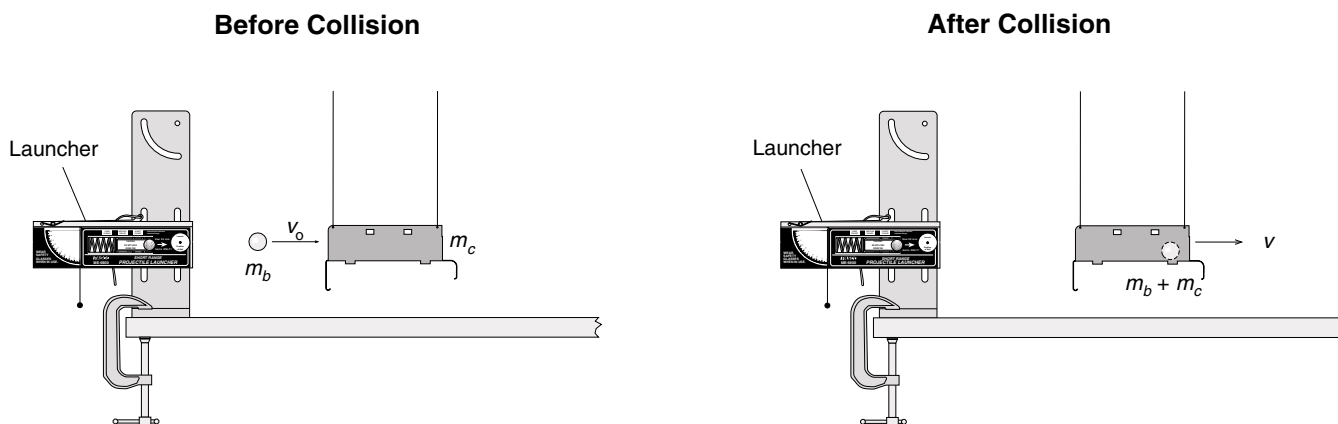

Figure 1.1: Conservation of Momentum
A ball is launched horizontally and embeds in the bob of a pendulum. The pendulum then swings up to a particular height, h . (See Figure 1.1.)
3. With the Projectile Launcher mounted as in Figure 1.1, clamp the suspended ball catcher directly in front of the muzzle.